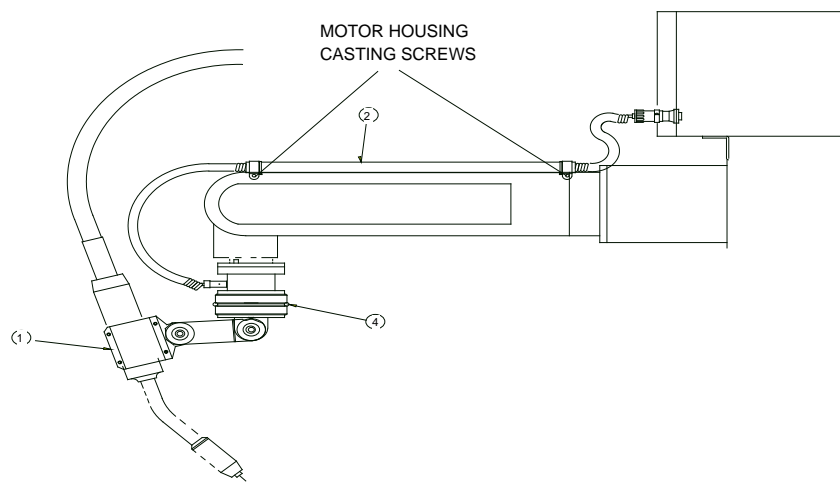

Figure 10-4 Mounting the P-Clamp and Conduit Assembly
10. With the breakaway unit in place, connect the retractile cable (see Figure 10-4, Item #2) to the proximity switch on the breakaway.